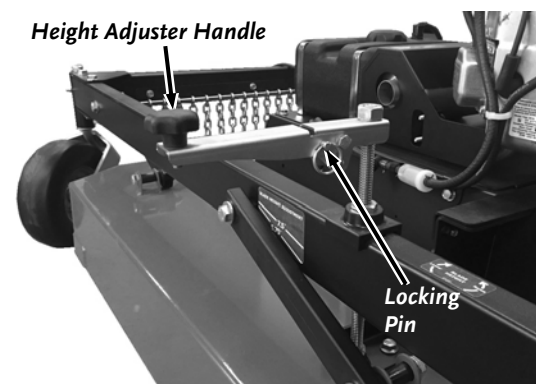

Figure 18
2. Lift the Handle up to the operating position and re-install the Locking Pin (**Figure 18**).